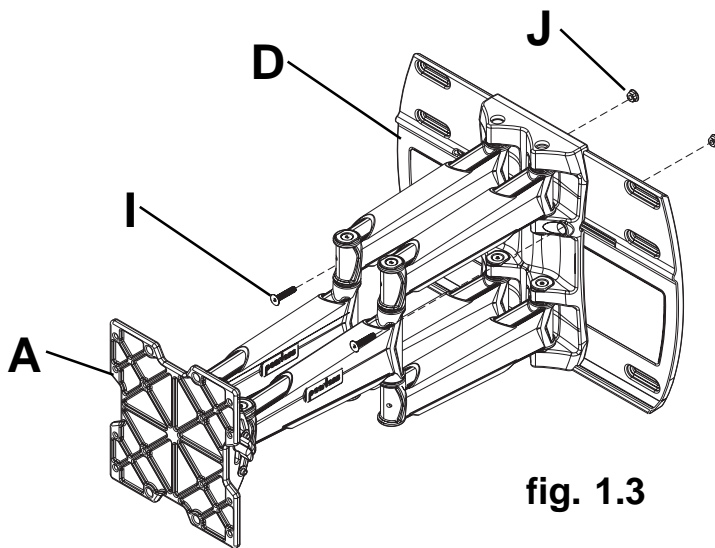

fig. 1.3
- Using 3/16" allen wrench (L), secure arm (A) to wall plate (D) using two 5/16-18 x 1.75" flat head socket screws (I) and two 5/16"-18 nuts (J) as shown in fig. 1.3. **NOTE: BOTH 5/16-18 x 1.75" flat head socket screws (I) must be fastened to to wall plate securely using 5/16"-18 nuts (J). Do not adjust arm while screen is attached.**